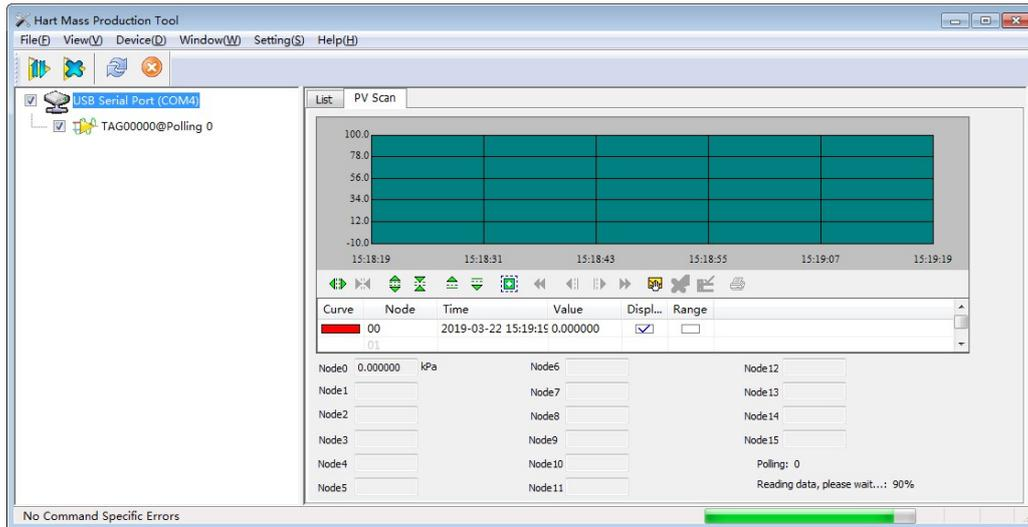

Figure 5.19 Main variable monitoring tab
- (1) Click on the left mouse button in the network view serial node (for example: COM1), the right tab view shows the serial port connected to the network of all online device related tab information.
- (2) Click "main variable Monitoring" in the right tab view, as shown in Figure 5.19.